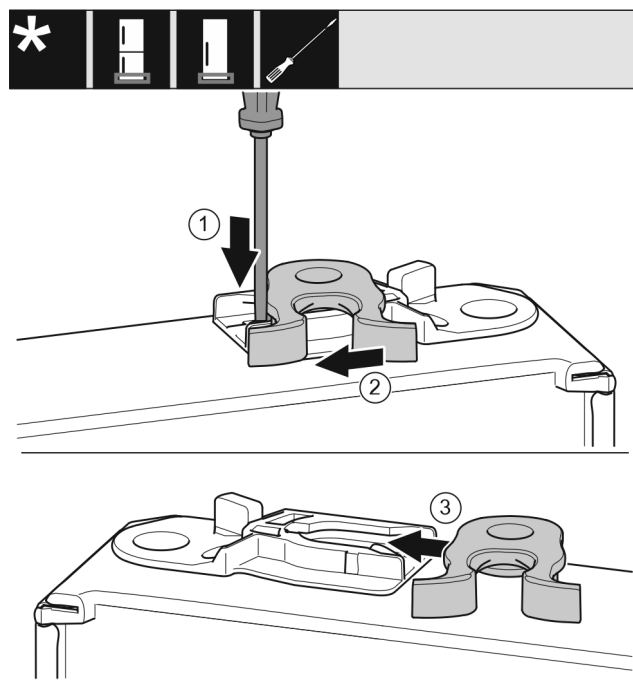

Fig. 51 *
- Use a slotted screwdriver to push the tab Fig. 51 (1) downwards.*
- Pull the closing hook Fig. 51 (2) out of the guide.*
- Insert the closing hook Fig. 51 (3) into the guide on the other side.*